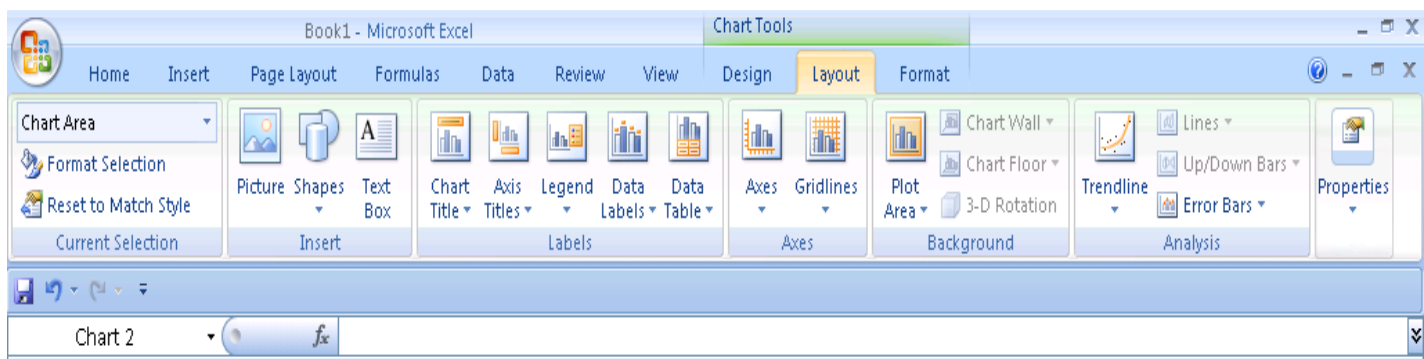

Figure-3
5.7 After, click the “**Layout**” option on top side of excel sheet as per shown in **Figure-3**.